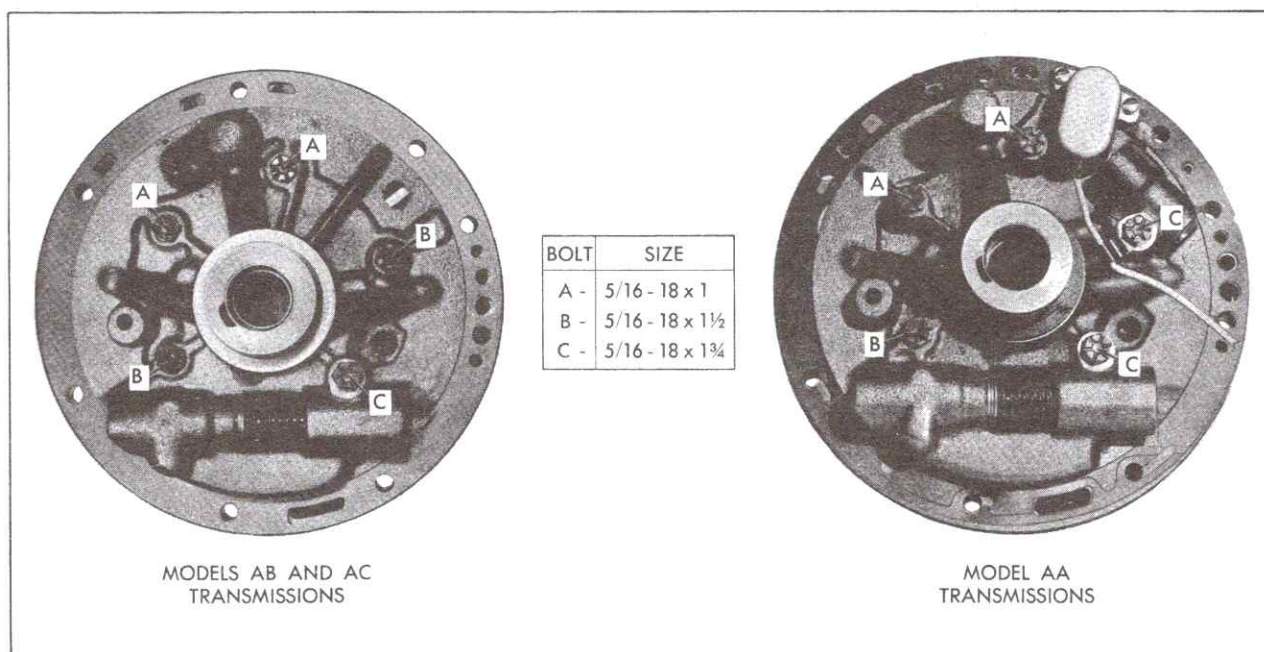

Fig. 7-61 Pump Cover Attaching Screw Chart
14. Install pump cover attaching screws following screw chart, Fig. 7-61. On AA transmissions, install wire clip on screw next to stator valve. Leave screws one turn loose at this time.